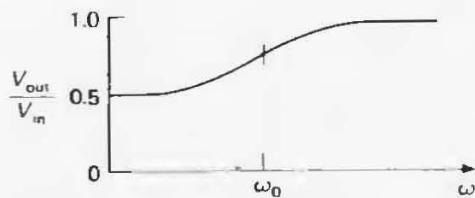

Figure 1.108
(5) How would you make a filter with  $R_s$  and  $C_s$  to give the response shown in Figure 1.108?